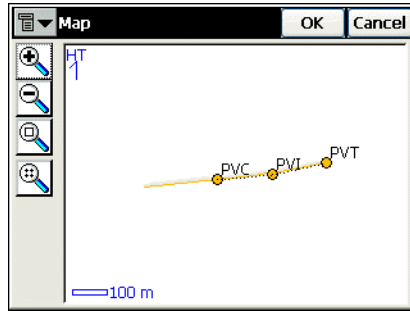

Figure 4-42. Vertical Alignment Map
- Double-tap in the plot area to open the greater *Map* for the vertical alignment. For vertical curves, the map displays the PVC point where the vertical curve begins, the PVI point of intersection of two tangents, and the PVT point where the curve ends (Figure 4-42 on page 4-32).